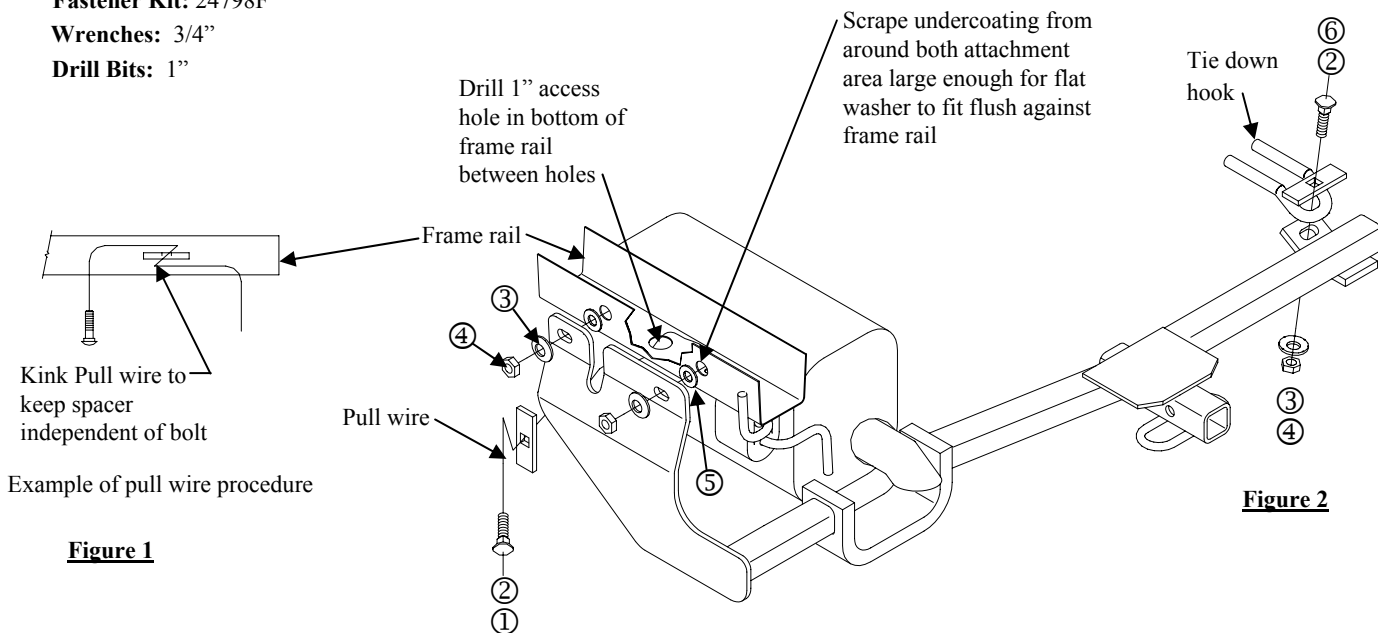

Figure 2
①	Qty. (2)	Carriage Bolt 1/2-13 X 1.75 GR5	④	Qty. (3)	Hex Nut 1/2-13
②	Qty. (3)	Spacer	⑤	Qty. (2)	Flat Washer
③	Qty. (3)	Conical Washer	⑥	Qty. (1)	Carriage Bolt 1/2-13 X 2.00
- Raise end of hitch into position as shown in Figure 2, attach the conical washer and nut.